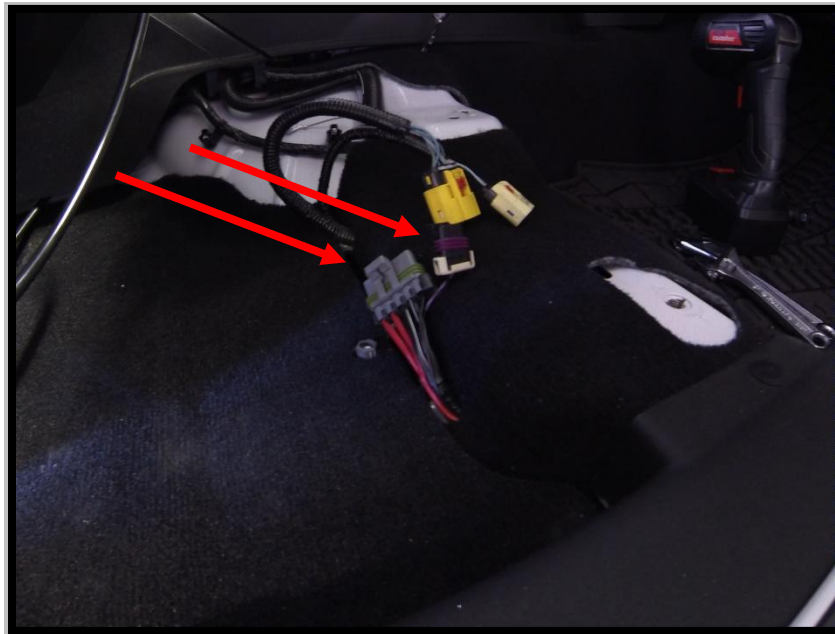

Figure 19
- 4-F) Reinstall the side panel and rocker panel. The two harnesses can be run under the carpet with the plugs positioned as in **Figure 19**.